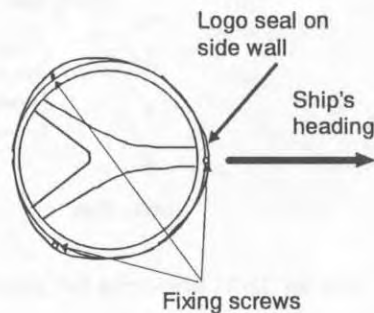

Fig.21 Fitting cover
- ① Ensure that the radar is off. Connect the cable to the receptacle labeled "SCANNER" on the rear panel of the display unit.
- ② Next, remove the upper part of the radome from the scanner unit. Avoid bumping it against the antenna by lifting vertically. (There are three fixing screws.)
- ③ Remove the tape fixing the antenna.
- ④ Remove the shield cover located on the astern side. (There are three fixing screws.)
- ⑤ Remove the cable clamping plate and rubber ring, pass cable through the introduction opening, put the rubber ring from both ends of it, and clamp the cable to the scanner unit with screws via the fixing plate. Plug the connector fitted to the cable into the X1 connector on the PCB.
- ⑥ Replace the aluminum cover. At this time, attach a cable shield onto a ditch with the aluminum cover. However, be careful that the cable will not be caught up between the main unit and cover.
- ⑦ Replace the upper part of the radome. Be careful not to bump it against the antenna in the same way as when removing it. Make sure that the cover is fitted in the correct direction as shown in Fig.21. The upper and lower parts of the radome each have three markings indicating screw positions. Align the upper and lower positions as you mount the radome.